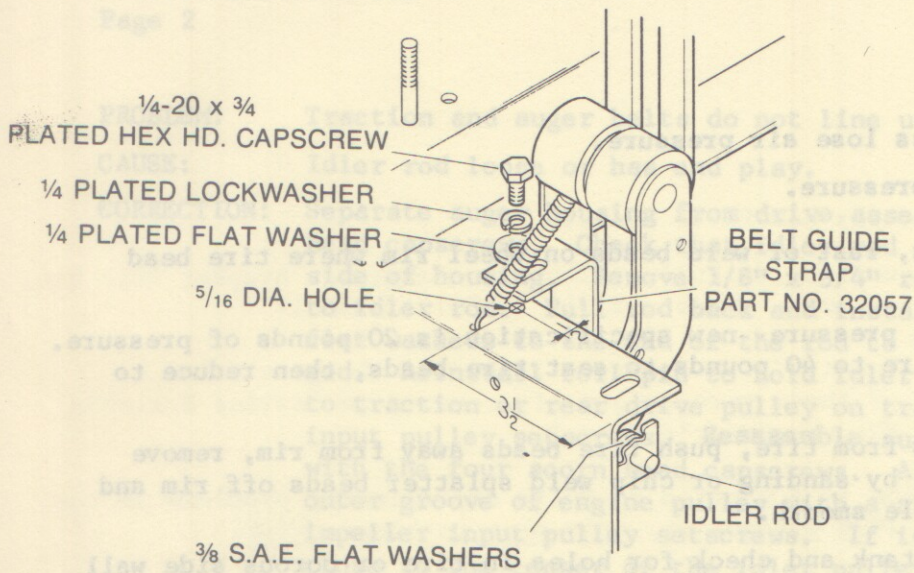

FIG. 1
3. Attach belt guide strap--within 1/16" of belt and pulley--be sure guide is square with belt and belt is engaged. (See Fig. 1.)